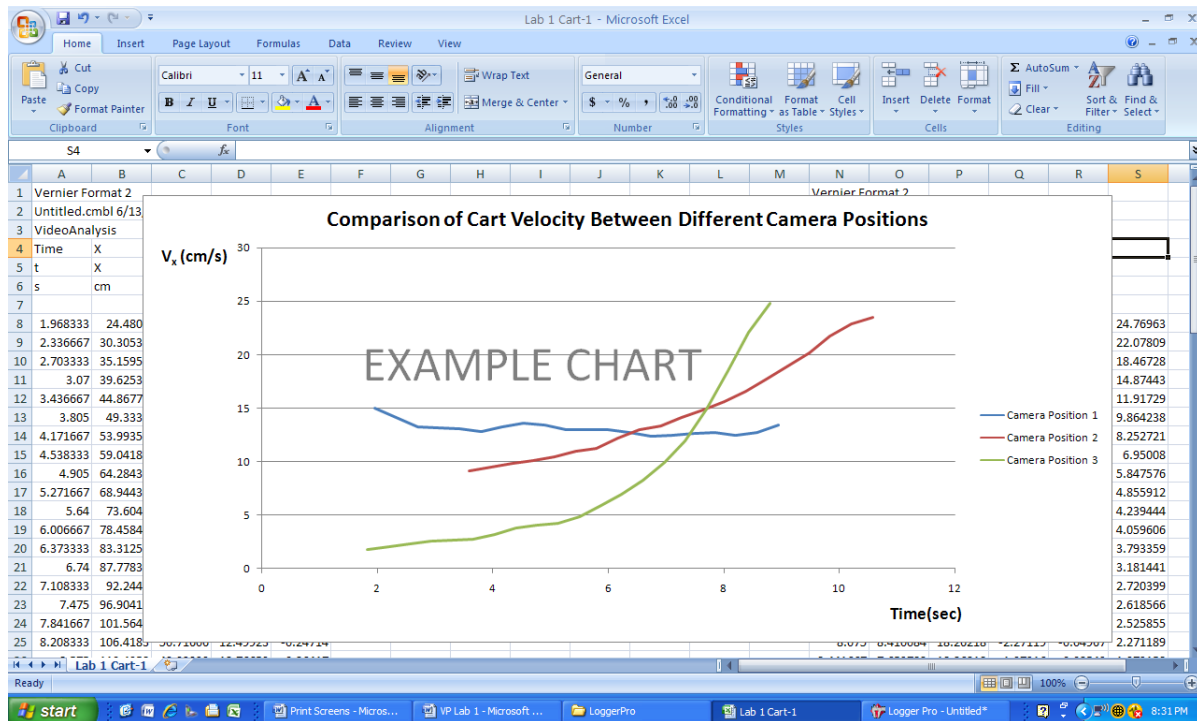

Figure 6
1. Plot the horizontal velocity versus time in an Excel chart as the cart glided along the air track. If you aligned the x-axis of the coordinate axes with the sequence of data points, then the horizontal velocity of the cart will be the X-Velocity in your data file. Place the velocity from all three movies into the same chart for easy comparison. *Copy* and *Paste* this chart into your TM. The chart should display the differences in the horizontal velocity between the three camera angles. Figure 6 shows an example chart with all three data series in the chart.